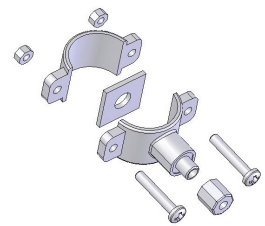

Fig. 2
2. Obtain the drain saddle assembly, two 1 1/2" bolts, two 3/8" hex nuts, and the small adhesive foam pad from the small parts bag (Fig. 2).